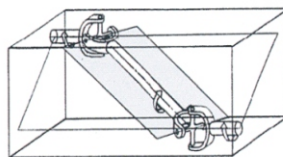

Figure 3.1
- The intermediate section yoke bearing holes and the intermediate shaft axis are on the same plane (See Figure 3.1);
Check that the yoke bearing holes in the intermediate section and the intermediate shaft axis are on the same plane (see Figure 3.1). This is an essential check.